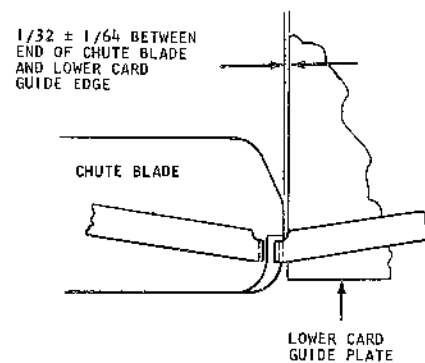

Figure 21. Chute Blade (Top View)
4. Adjust the chute blades (use the chute blade mounting screw) for $\frac{1}{32}'' \pm \frac{1}{64}''$ clearance between the end of the lower chute blade and the lower card guide plate (Figure 21).